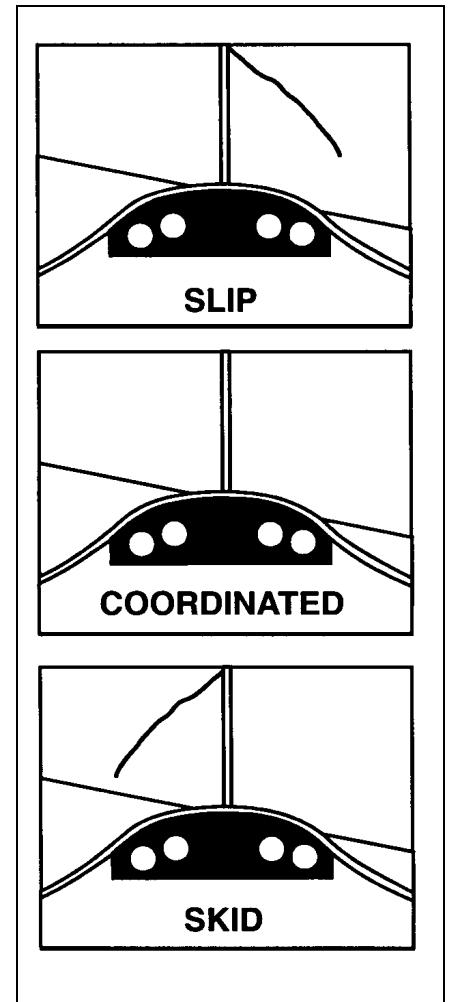

Figure 6-3-5 Yaw String
33. A common error that occurs once a turn is established is misuse or over-control of the rudder. One of the least expensive and most efficient slip/skid indicators is the yaw string, a piece of yarn mounted in the free air stream in front of the pilot as shown in Figure 6-3-5 to the right. The yarn remains aligned with the glider when the controls are properly co-ordinated, but indicates a slip by moving toward the outside of a turn, or a skid by moving toward the inside of the turn. A simple rule of thumb for applying the proper amount of rudder is to apply the rudder opposite to the direction the string is pointing until the string is centralized making sure that the angle of bank does not change.